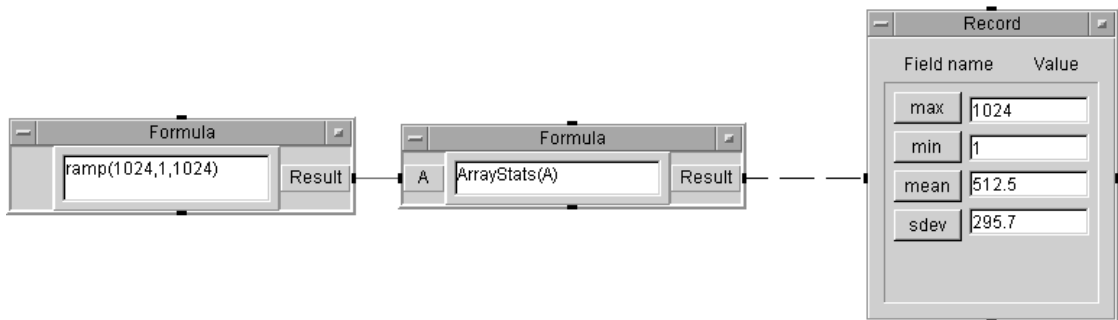

Figure 186 Calling the ArrayStats User Function
- 2 Run the program. It should look like Figure 186.
- 1 In the same example used in Figure 186, double-click the Formula object ArrayStats to delete the object. (You could also select the object menu and select Cut.)